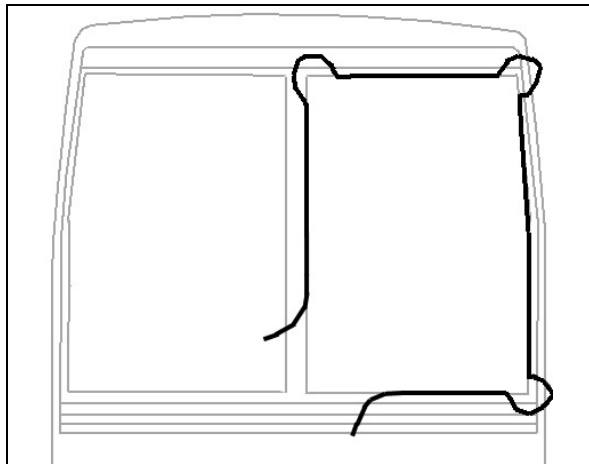

FIGURE 15: WINDSHIELD INSTALLATION USING ROPE
- Insert rope into rubber extrusion leaving enough length at each corner to make a loop. Spray soapy water onto rope and rubber extrusion (Fig. 15).